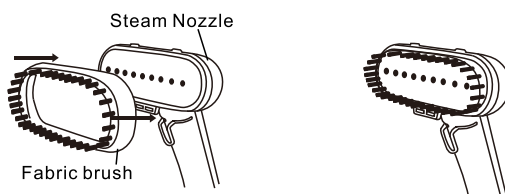

Figure 8
- 3.2 Press the brush to the Steam Nozzle to lock in place. (see Figure 8)